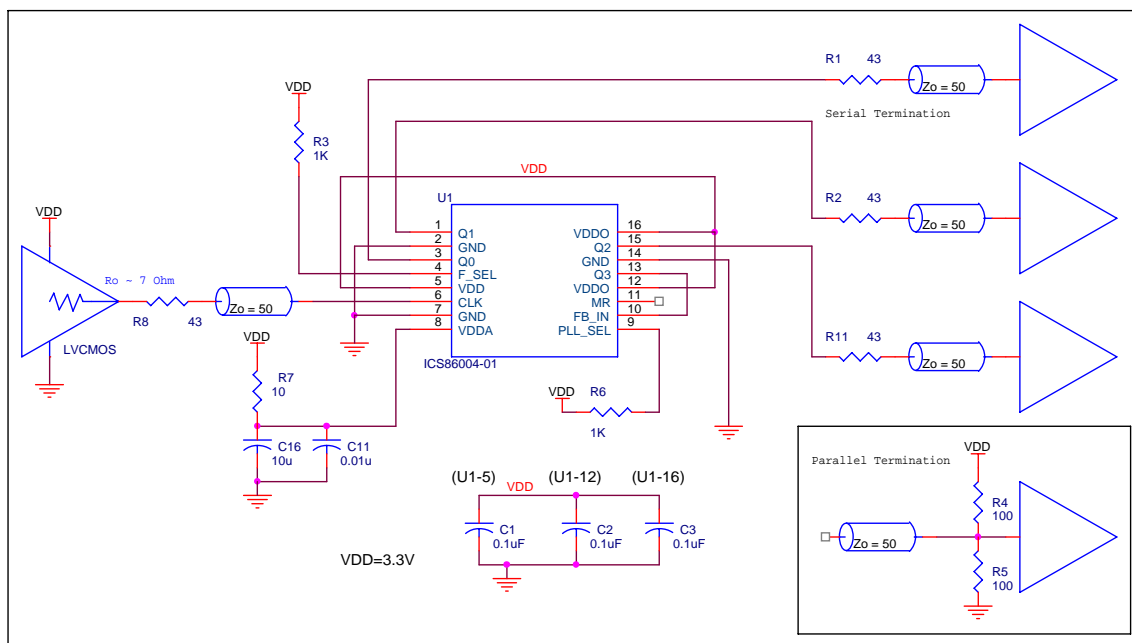

FIGURE 2. ICS86004-01 SCHEMATIC EXAMPLE
*Figure 2* shows a schematic example of using an ICS86004-01. It is recommended to have one decouple capacitor per power pin. Each decoupling capacitor should be located as close as